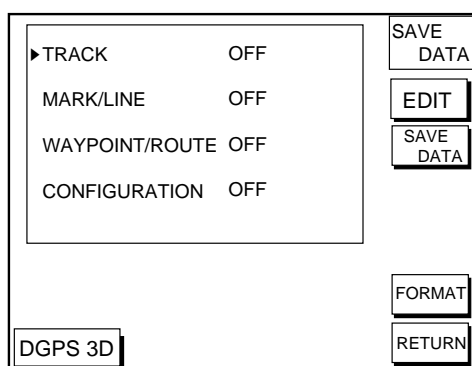

Figure 10-1 SAVE DATA display
3. Press the soft key labeled SAVE DATA TO MEMORY CARD. The SAVE DATA display (Figure 10-1) appears.